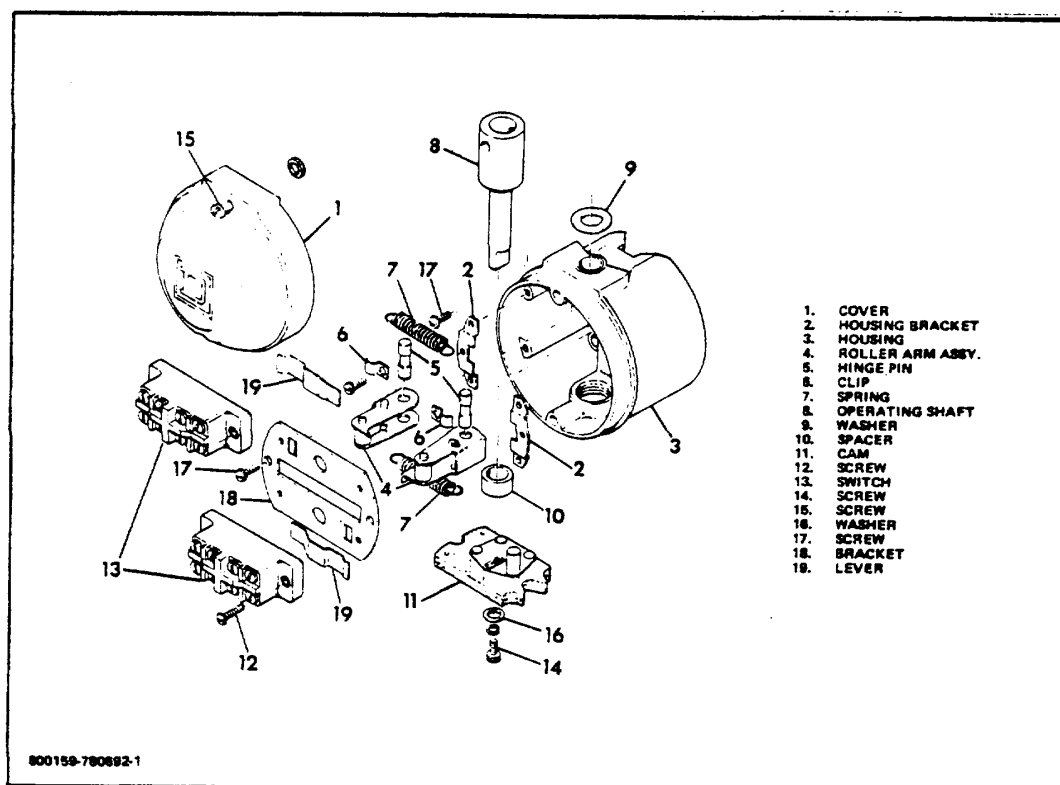

Figure 7-2. Directional Switch
- c. Remove the hardware securing the directional switch cover. Remove the cover (Fig. 7-2). Tag for identification and disconnect the electrical leads from the directional switch terminal connection. Remove the directional switch from the instrument panel.